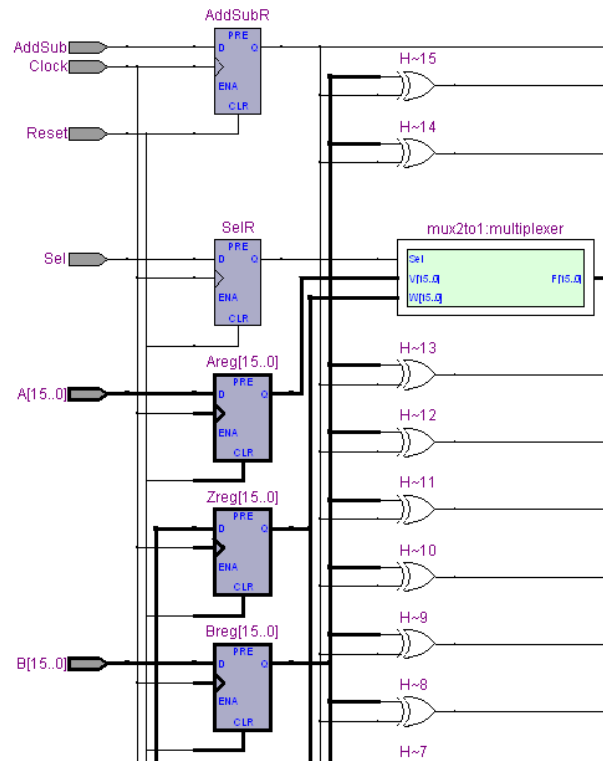

Figure 28: An enlarged view of the circuit.
2. Use the Zoom Tool to enlarge the image and view the upper-left portion of the circuit, as illustrated in Figure 28. Note that individual flip-flops are used for the *AddSub* and *Sel* signals. Sixteen-bit vectors *A* and *B* are denoted by heavy lines connected to the registers, *Areg* and *Breg*, which are indicated as heavily outlined flip-flop symbols. The *Zreg* register is drawn in the same manner.